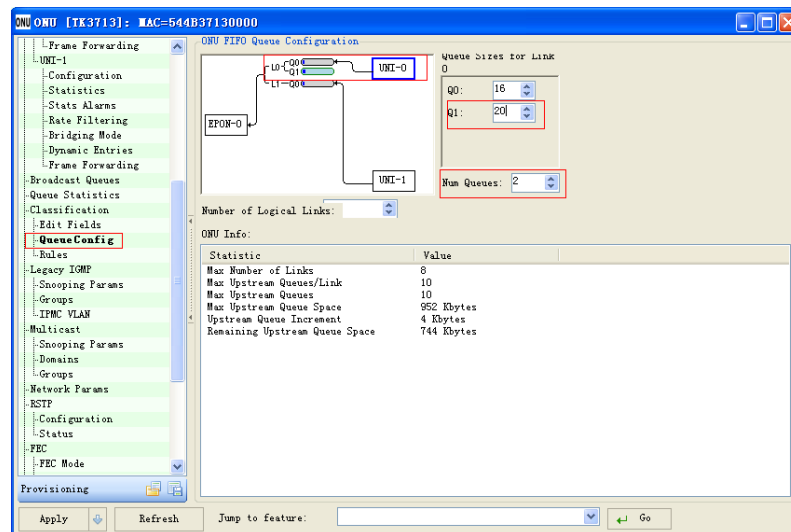

Figure 8-16 Add Queues
- 1) In the Queue Config, select one link and selected the number of queues (the maximum number of queue is 10) to be added with the arrow button in the Num Queues option; modify the size of corresponding queues in the option box of Queue Sizes for Link. For example, add a queue Q1 in the link L0 and set the size of the queue as 20 shown in the Figure 8-16;